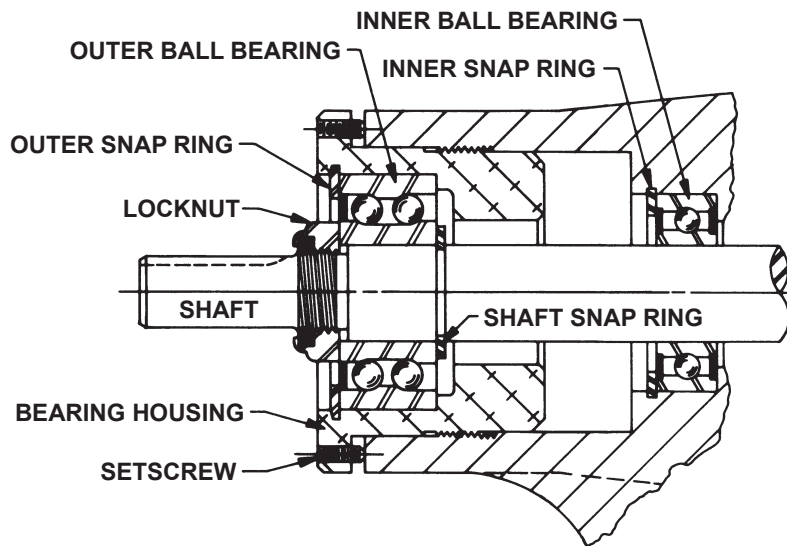

FIGURE 9 - THRUST BEARING ASSEMBLY G, GG, H, HJ AND HL SIZES
6. Insert a brass bar or piece of hardwood in the port opening and between the rotor teeth to keep the shaft from turning. Turn the locknut counterclockwise and remove locknut. See **Figure 9 or 10**, page 6.
7. Loosen the two setscrews in the face of the bearing housing and turn the thrust bearing assembly counterclockwise and remove from casing. See **Figure 9 or 10**, page 6.
8. **G, GG, H, HJ, HL:** Remove the snap ring from the shaft. See **Figure 9**, page 6.
G, GG, H, HJ, HL: Remove the outer snap ring from the bearing housing and remove the ball bearing. See **Figure 9**.
13. G, GG, H, HJ, HL: Install the shaft snap ring in groove in the shaft. See **Figure 9**, page 6.
14. Pack the lubrication chamber between the inner ball bearing and double row ball bearing in the thrust bearing assembly approximately one-half full of multi-purpose grease, NLGI #2. The thrust bearing assembly will take the remaining space. See **Figure 9 and 10**, page 6.
G, GG, H, HJ, HL: Install the ball bearing into the bearing housing with shield side toward the coupling end of the shaft. See **Figure 9**, page 6. Install the snap ring into bearing housing to retain ball bearing. This snap ring has a tapered edge to fit tapered groove in bearing housing. The tapered edge is located away from the ball bearing.
See **Figures 9 and 10**.